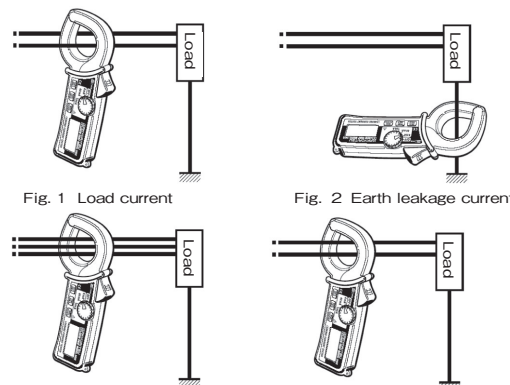

Fig. 3 Measuring out of balance leakage current
- (3) Measuring out of balance leakage current (See Fig. 3):